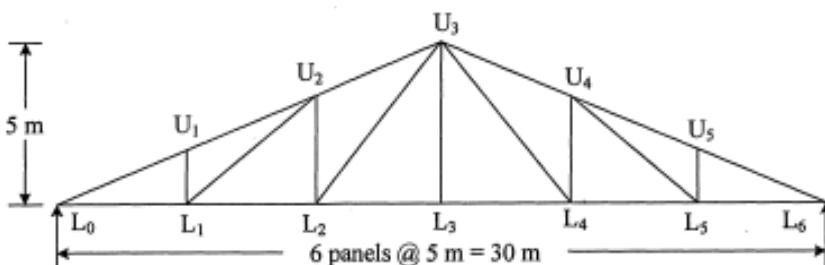

Fig. 9
9. Determine the design force in the members  $L_0U_1$ ,  $L_0L_1$  and  $U_1L_1$  of a pratt truss as shown in Fig. 9. The design wind pressure is 1200 N/m2, the trusses are covered with A C sheet and the centre to centre spacing of truss is 6 m.